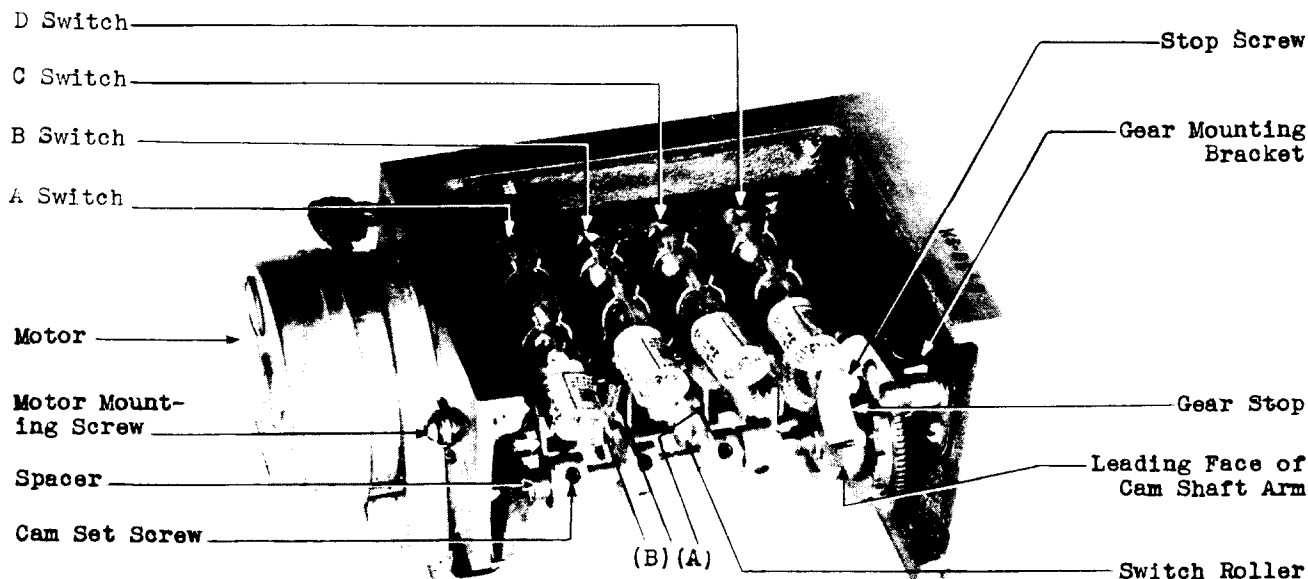

Fig. 1 - KS-8543 Timer
Switch Roller Bearings	- Fig. 1 (A)
2.05 Cam and Switch Roller Engagement: Fig. 1 (B): In all positions of the cam shaft in which the face of a cam contacts the associated roller and with the end play of the cam shaft taken up in one direction and the end play of the rocker arm and switch roller taken up in the other, each edge of the cam shall clear the adjacent edge of the roller by